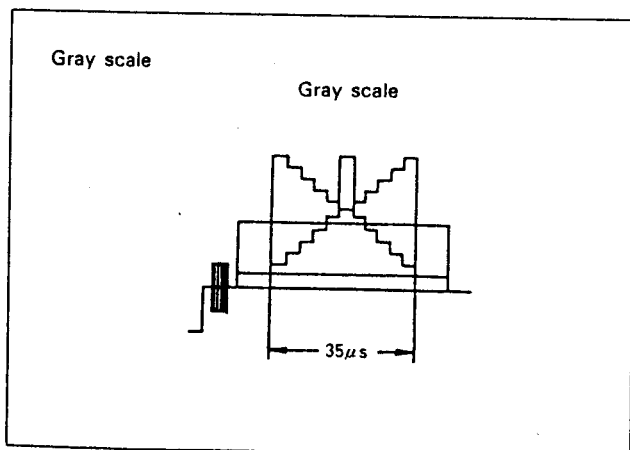

Fig. 1-4.
- ① Set the frame as shown in Fig. 1-4. below unless specified otherwise.